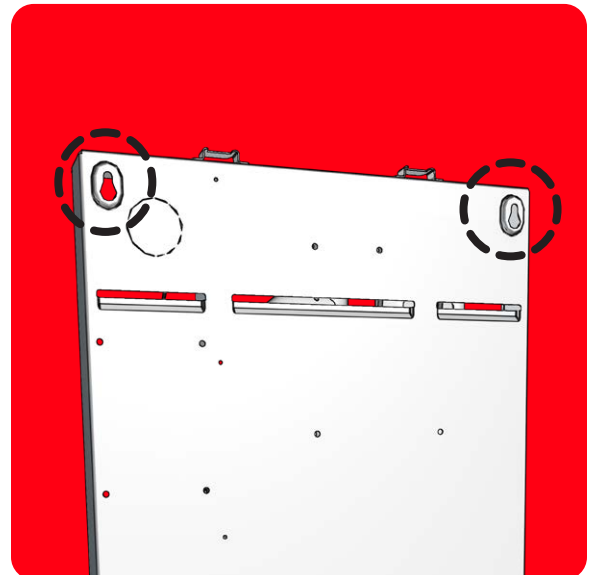

Figure 5 - Top Enclosure Feature for Affixing to Wall
In each inside corner of the stainless-steel enclosure there is an offset feature that will accept up to a 1/4 inch diameter fastener. See figure and reference the Paper Template that conveniently marks the centerlines of these four (4) locations. The upper two (2) locations have a shape that allows the unit to be temporarily supported while the lower two locations are fastened. (See Figure 5)